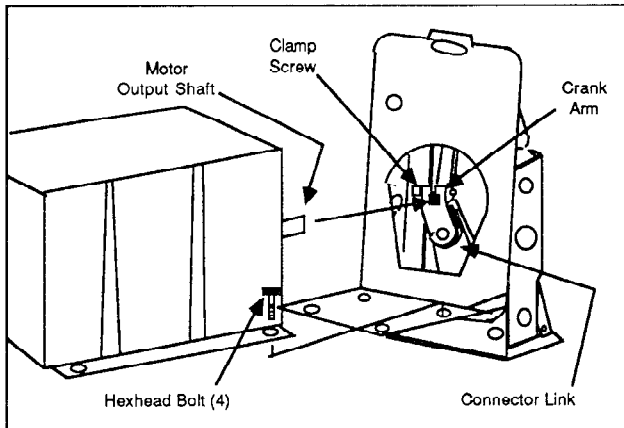

Figure 15. Mounting the Modular Motor on Q601 Valve Linkage
3. Insert end of modular motor in linkage crank arm and bolt motor to valve linkage with four (4) 1/4" bolts furnished (See Figure 15).